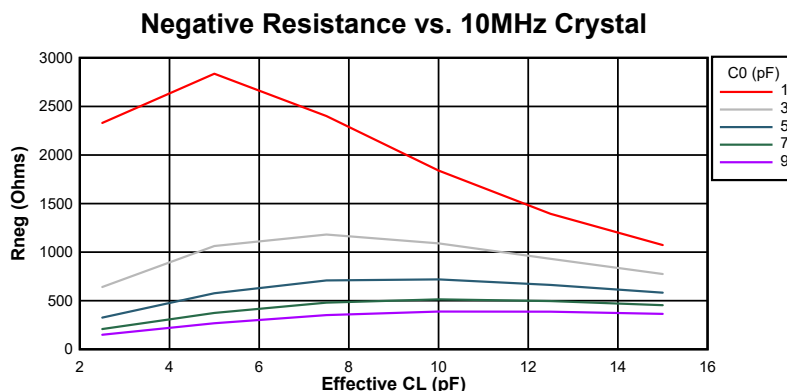
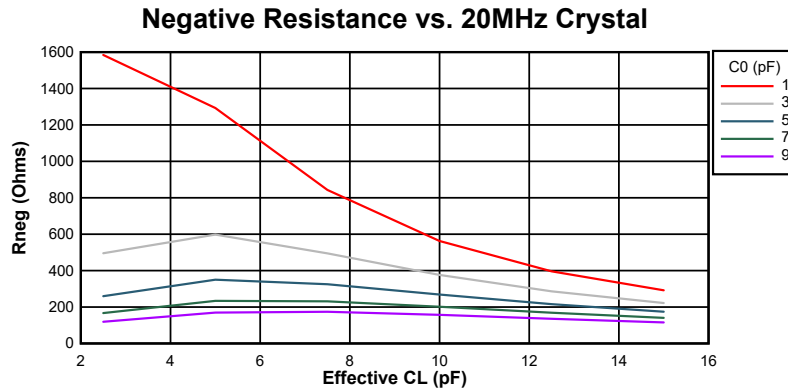

Figure 6-17. Negative Resistance Variation at 10 MHz
Figure 6-18. Negative Resistance Variation at 20 MHz
Figure 6-17 and Figure 6-18 show the variation between negative resistance and the crystal components for this device. As can be seen from the graphs, the crystal shunt capacitance (C0) and effective load capacitance (CL) greatly influence the negative resistance of the electrical oscillator. Note that these are typical graphs; so, refer to Table 6-5 for minimum and maximum values for design considerations.